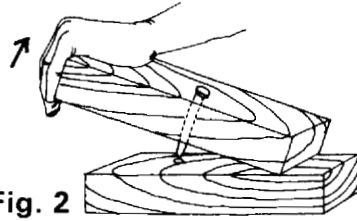
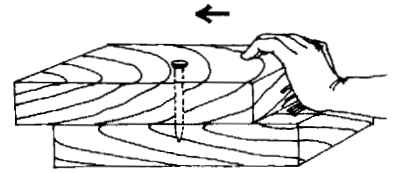

Fig. 2
Fig. 3
(Figure 2). We cannot pull them apart by sliding one piece of wood over the other (Figure 3).
- How can we separate the pieces of wood in Figure 2?
- We can separate the pieces of wood in Figure 3 by pulling them apart.